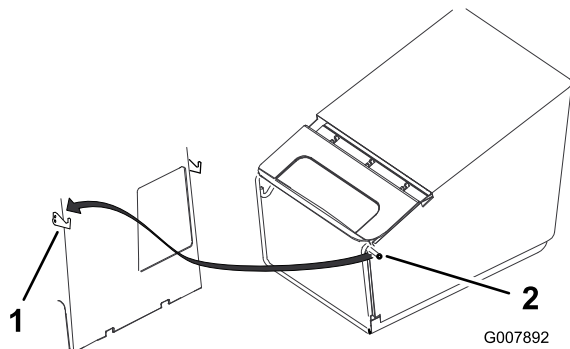

Figure 18
3. Hang the grass bag frame pins onto the hooks as shown in Figure 18.